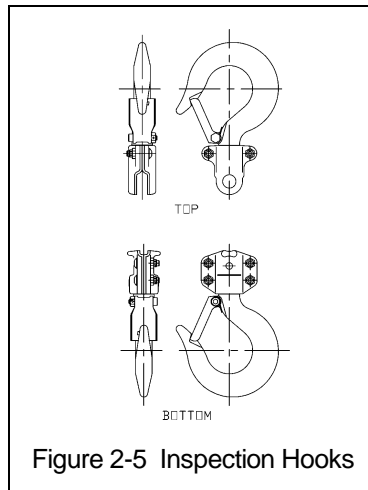

Figure 2-5 Inspection Hooks
- The Inspection Hook is designed to facilitate the inspection of the internal surfaces of the hook yoke and shank portion of the hook itself. The Inspection Hook is suitable for applications where inspection of the internal parts of the hook set is required. The inspection hook uses the standard Harrington hook set and is assembled with high-strength locking fasteners instead of rivets. Inspection hooks are available in top and bottom versions. Refer to Figure 2-5.